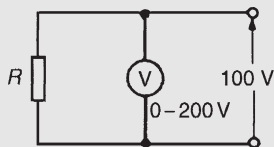

Figure 10.9
**Problem 3.** Calculate the power dissipated by the voltmeter and by resistor  $R$  in Fig. 10.9 when (a)  $R = 250 \Omega$ , (b)  $R = 2 \text{ M}\Omega$ . Assume that the voltmeter sensitivity (sometimes called figure of merit) is  $10 \text{ k}\Omega/\text{V}$ .